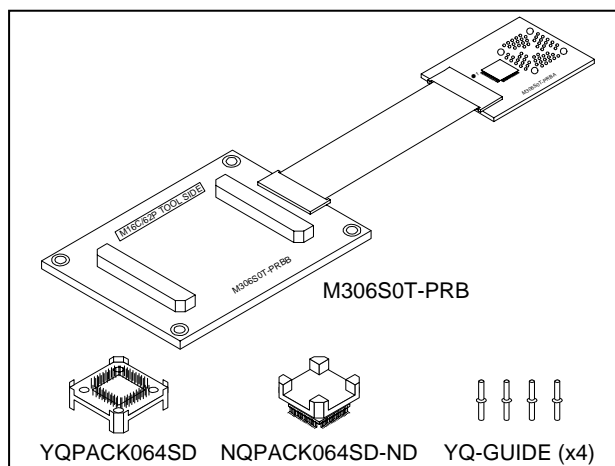

Figure 2.1 Package components
2. Package Components (See Figure 2.1)